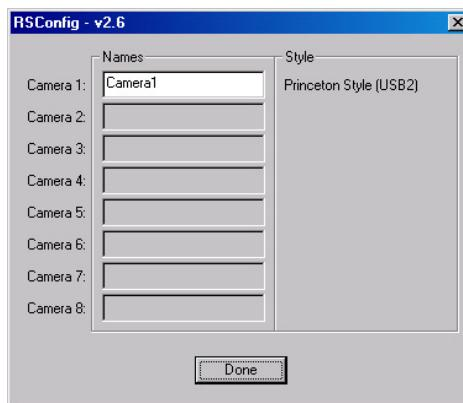

Figure 197. RSConfig dialog box
4. When the RSConfig dialog box (Figure 197) appears, you can change the camera name to one that is more specific or you can keep the default name "Camera1". When you have finished, click on the **Done** button.
4. When the RSConfig dialog box (Figure 197) appears, you can change the camera name to one that is more specific or you can keep the default name "Camera2". When you have finished, click on the **Done** button. You will next edit the generated PVCAM.INI file.